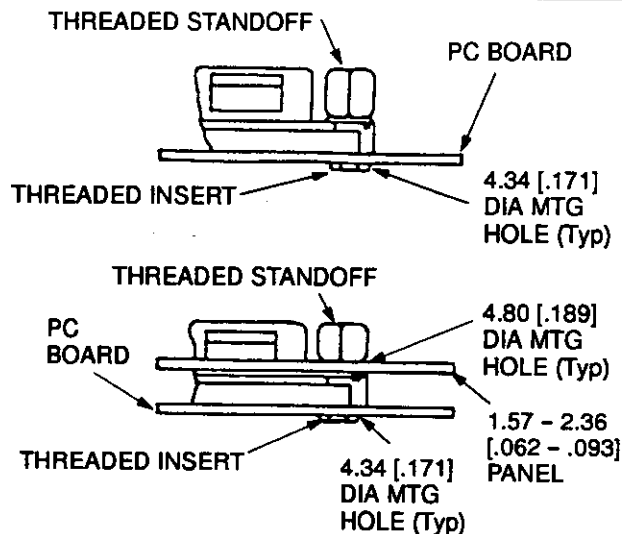

Figure 11
**D. IEEE No. 488-1978 Screw Lock Kit (Figure 11)**